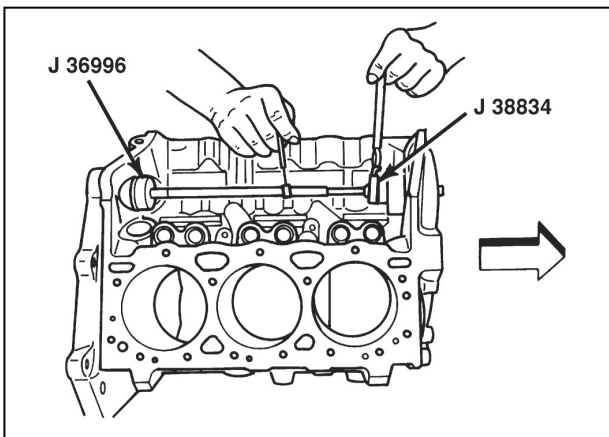

Figure 12-17 Removing Balance Shaft Rear Bearing
6. Balance shaft rear bearing using J 38834 and J 36996 (figure 12-17).